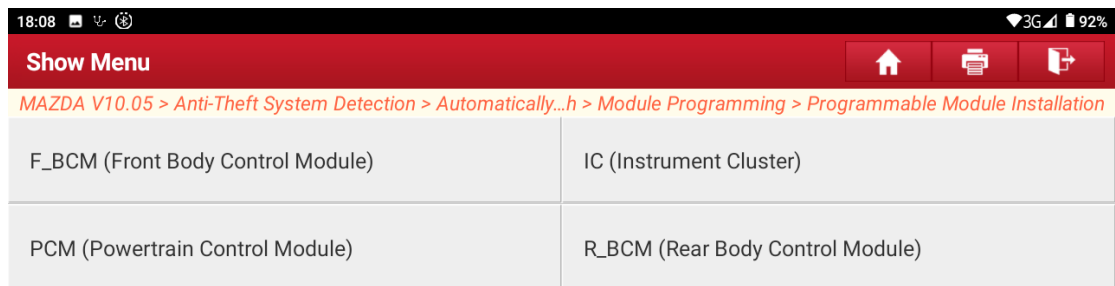

Figure B8
6. Choose [F_BCM (Front Body Control Module)]. See Figure B8.